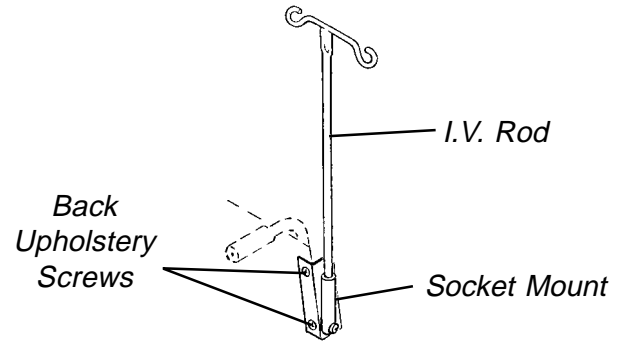

FIGURE 2 - INSTALLING FIXED HEIGHT I.V. ROD
INSTALLING FIXED HEIGHT I.V. ROD (FIGURE 2)
1. Remove the top two (2) back upholstery screws from the side of the wheelchair that the socket mount was designed.
2. Position the socket mount on the wheelchair frame as shown in FIGURE 2.
3. Secure the socket mount to the wheelchair frame with the two (2) back upholstery screws.